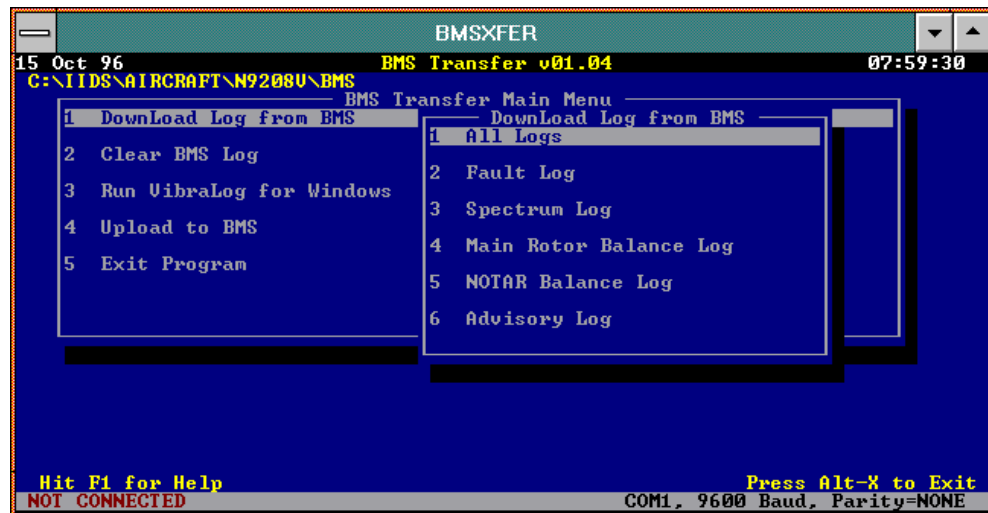

Figure 62. BMS Download Logs Menu Screen
4. A status screen will appear indicating the download progress of each log being transferred. Verify that “OK” appear after each log file name when “Download Complete” flashes at the bottom of the screen (refer to Figure 62).